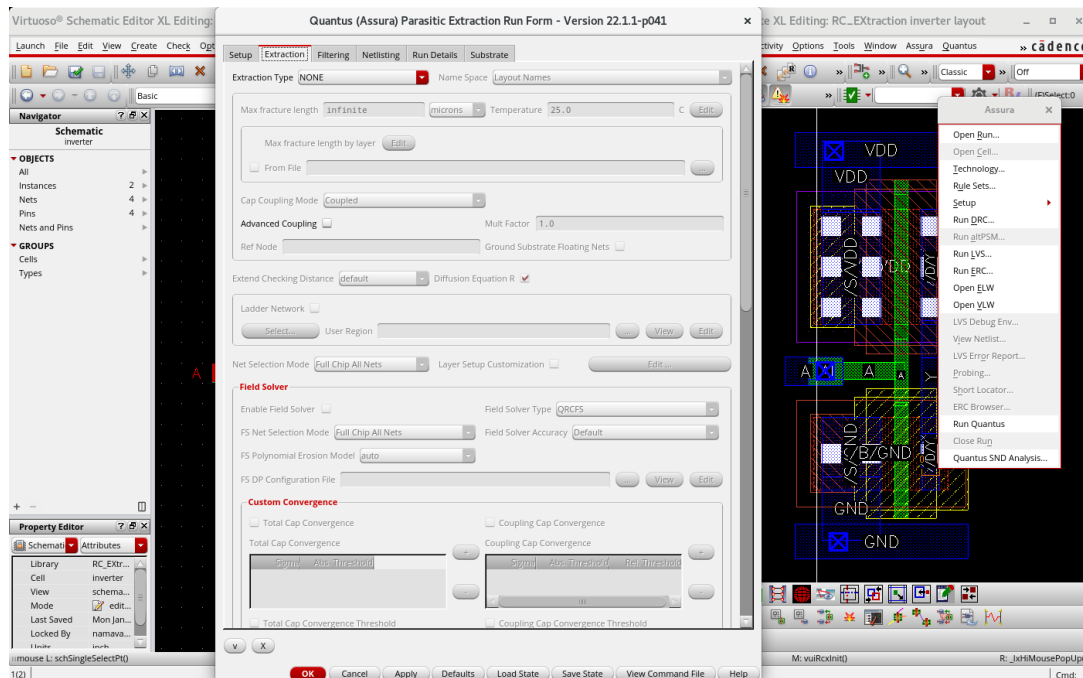

Figure 3: Quantus Extraction Tab Configuration for No RC Parasitic Extraction. Extraction Type is set to NONE.
1. Navigate to the **Extraction Tab** and set the **Extraction Type** to **NONE**, as shown in Figure 3.